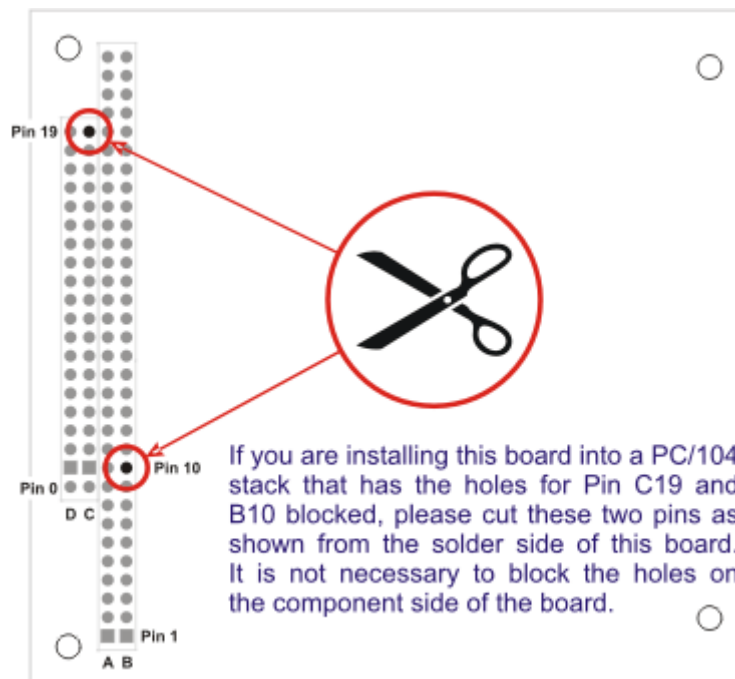

Figure 2-1: PC/104 Key Information
- Figure 2-1: PC/104 Key Information** 9